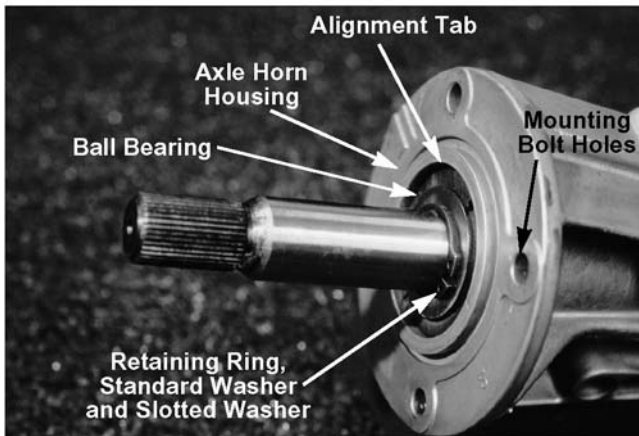

Figure 5-9.
- D. Axle shaft (splines). See Figure 5-9.